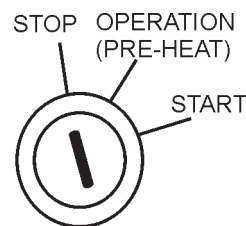

Figure 55. Ignition Switch (Off Position)
- To shut-down the engine in the event of an emergency, switch the **MAIN**, **GFCI** and **LOAD** (Figure 55) circuit breakers to “**OFF**” position.